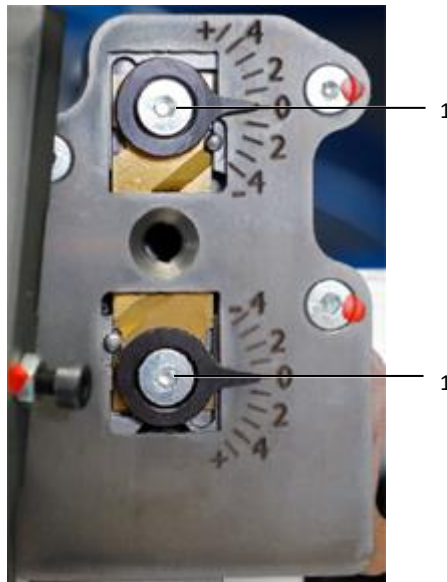

Fig. 6: Insulation stripping unit
- Loosen the two cam screws (fig. 6, item 1) (Allen key 2.5 mm).